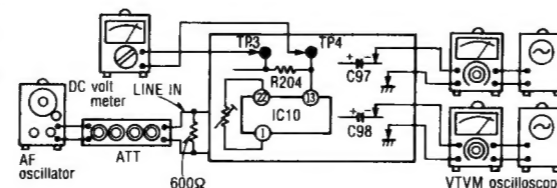

Fig. 21
1. Make the connections as shown in fig. 21 and apply 1kHz -27dB signal from LINE IN, and set the noise reduction selector to dbx tape position.